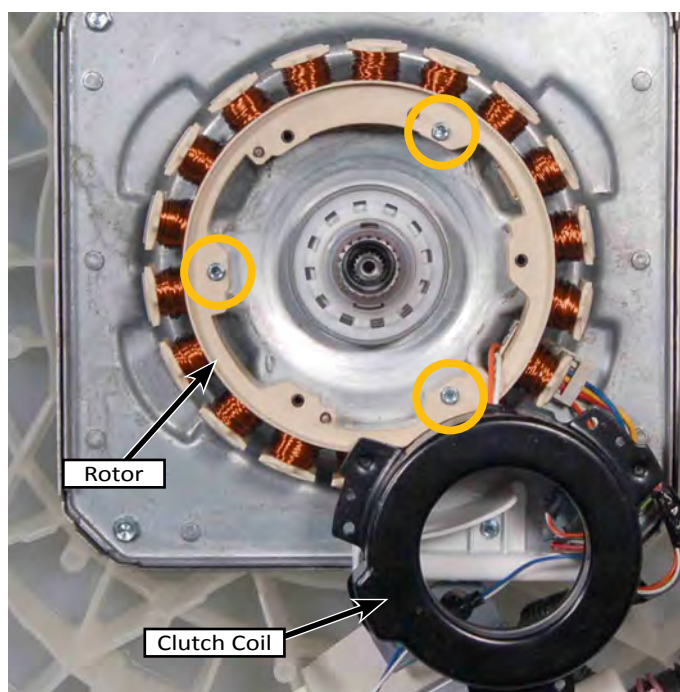

Figure 3
4. Use a 7mm socket to remove the three (3) stator mounting screws. Remove and set aside both the stator and clutch coil assembly (see Figure 3).